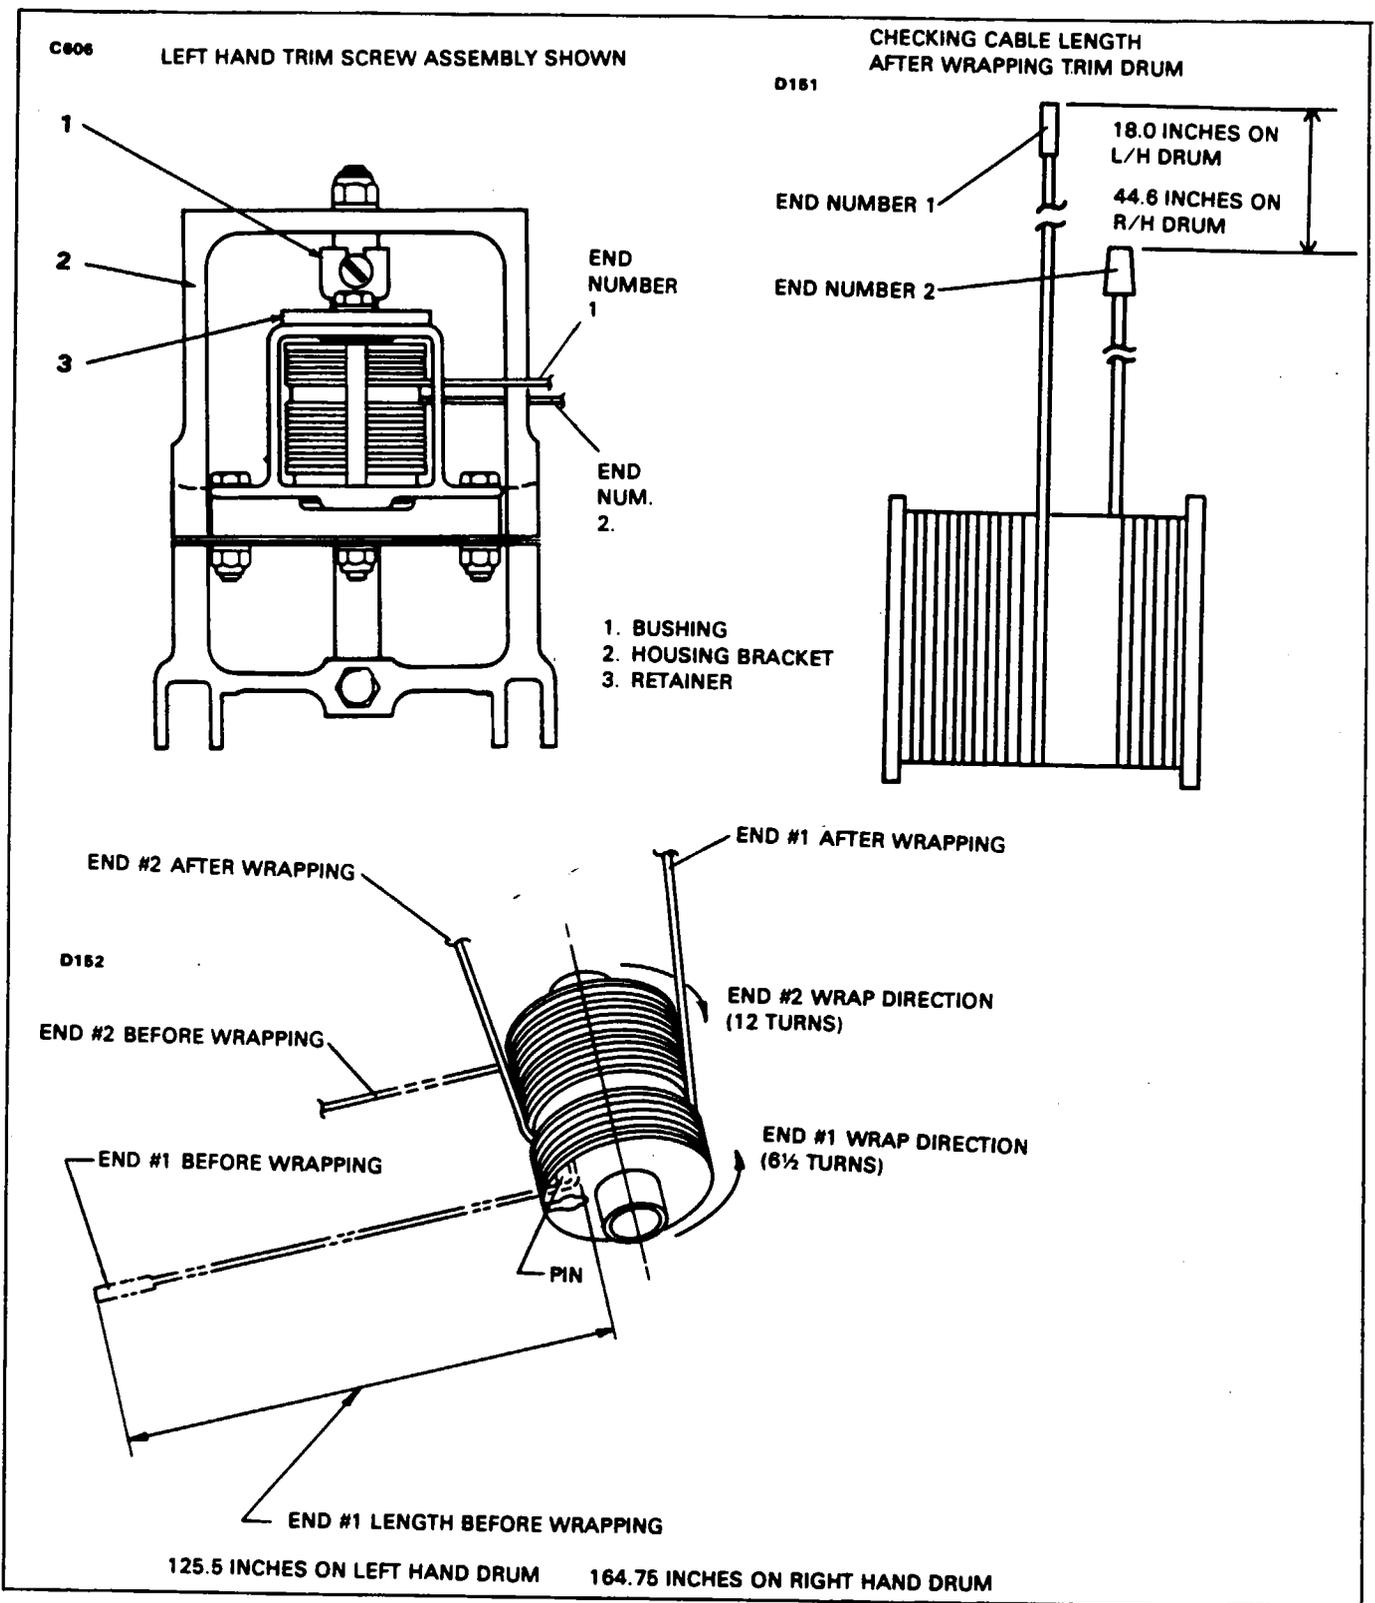

Figure 27-21b. Wrapping Elevator Trim Drums
**WRAPPING ELEVATOR TRIM DRUM (ELEVATOR).** (Refer to Figure 27-21b.)
2. Insert the drum in the housing bracket, position the drum and route the cables from the assembly as shown in Figure 27-21b.
5. Insure there is 1.34 inches between the lower surface of the plate and the boss on the bracket. Insure there is .07 inch between the upper surface of the retainer and the lower surface of the bushing. (Refer to Figure 27-21b.)